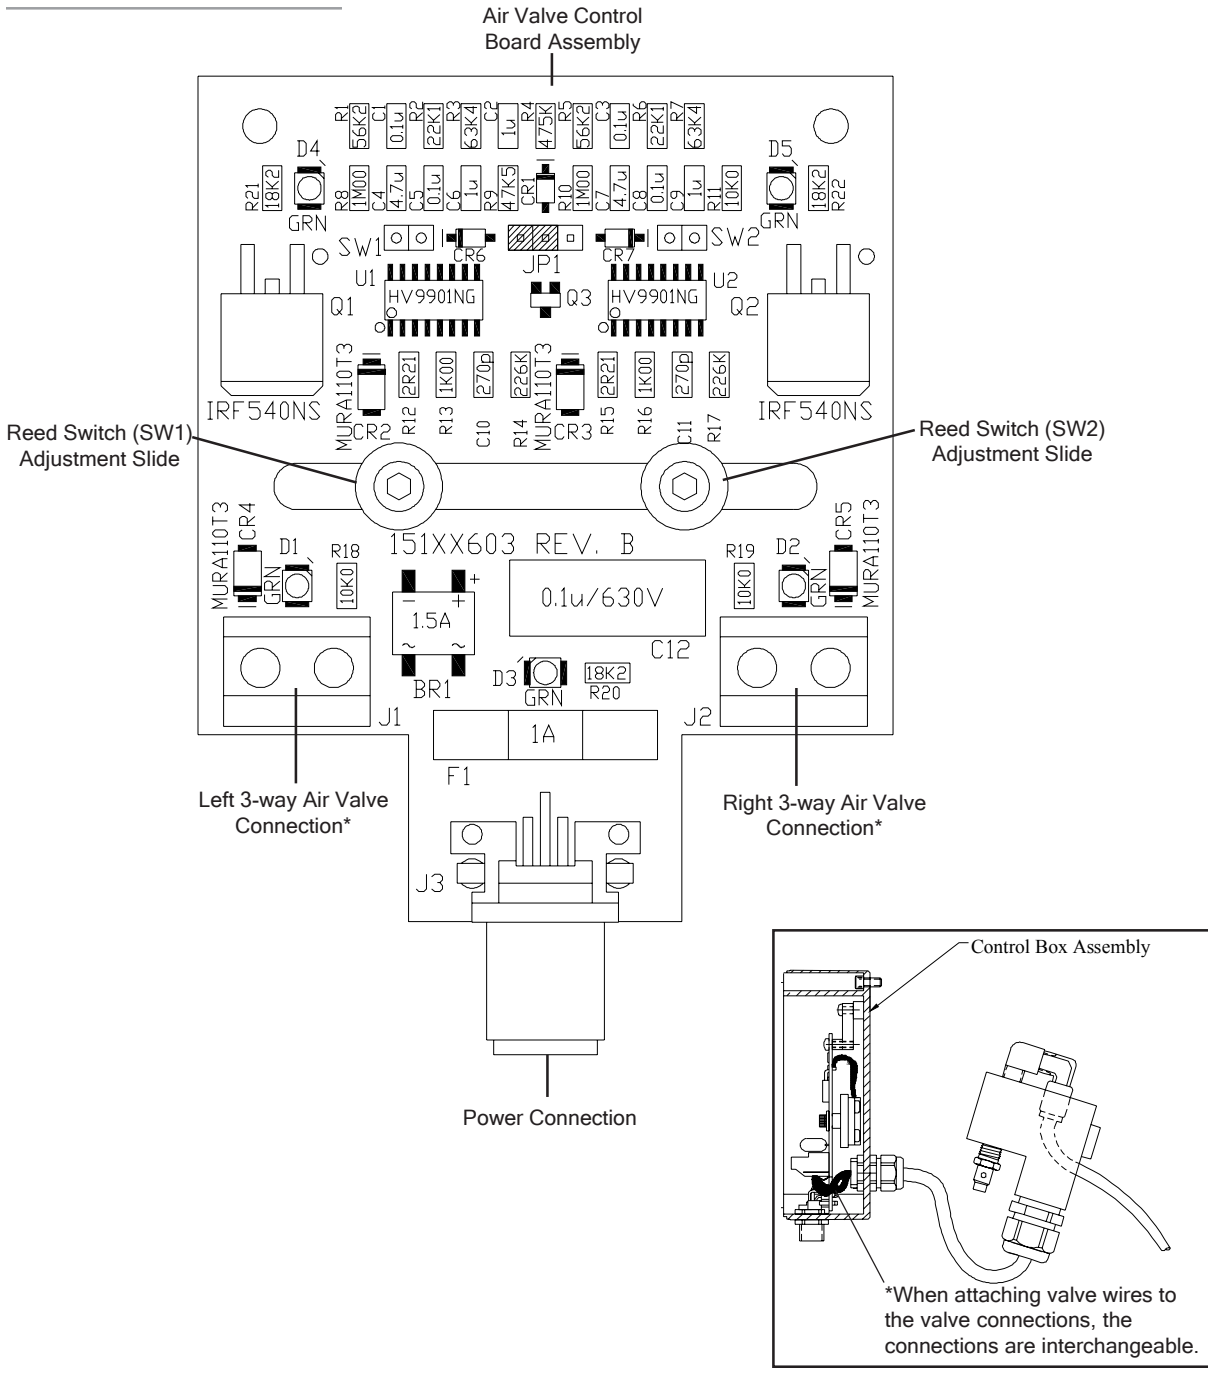

Figure 5-11 - PCB Board
4. Loosen the socket head capscrew that is connected to the left proximity switch (see Figure 5-11).